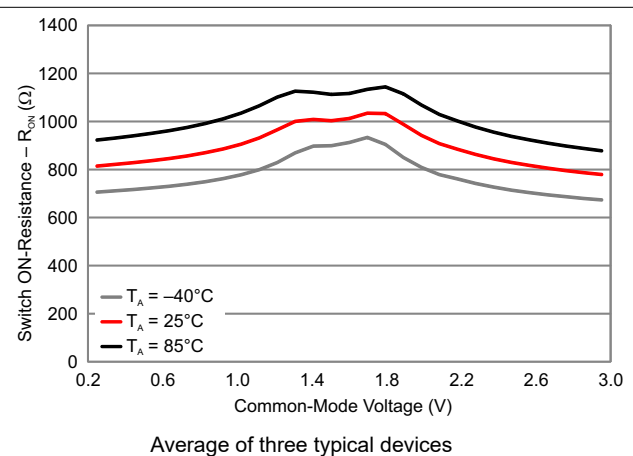

Figure 8-29. OA Switch R_{ON} vs Common-Mode Voltage
- (1) This leakage includes all leakage seen at the device pin, not only leakage caused by the switch itself. It assumes a total of five switches present and a shared digital I/O.
- (2) The resistance varies with input voltage range. This resistance represents the peak resistance at the worst case input range (see Figure 8-29).